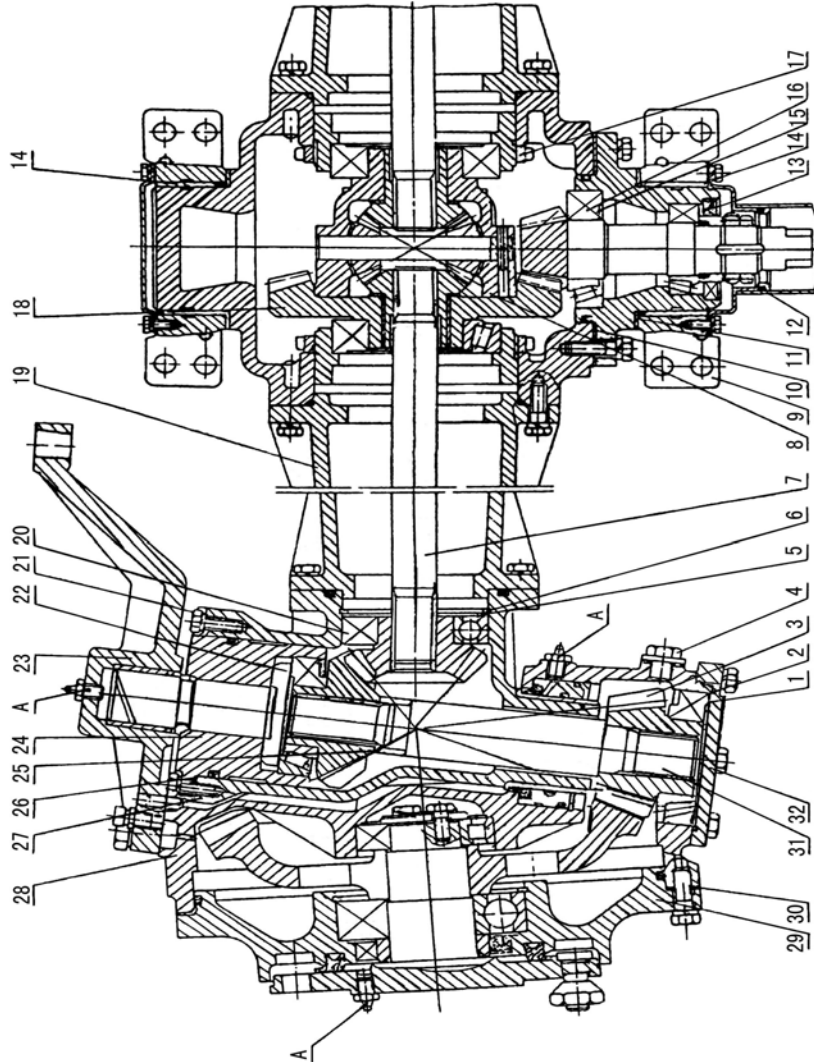

Fig.6-16 Fore central transmissioion and terminal transmission
When 4-wheel tractor goes along highway, power of front driving system shall be cut off to have the front wheels driven for reducing tires wearing. If the tractor is used for transportation for a long term instead of fields work, half shaft (7) shall be removed (see Fig. 6-16) to reduce resistance from front driving system for convenient transport. When the tractor goes along a sticky, wet and sandy path, or works in half- dry water fields, its back wheels skid easily, the front driving system shall be given power to raise its traction force.
(2) Structure and adjustment of front driving system.
The front driving power turns the front wheels through the following mechanisms, that is, the power goes through the transfer case under the bridge piece housing to the rolling ball coupling joint assembly (Fig. 6-17) to transmit to the central transmission system (Fig. 6-16) to divide into two parts and passes side half shafts to front final transmission.
After put differential mechanism into front axle assembly (Fig. 6-16), put its two shaft necks into internal ring of bearing (6) and adjustment nut (17) respectively, inspect meshing of driven wheel (18) and driving wheel (16), and adjust it if necessary then twist bolt(4) and single ear washer (3) in driven wheel (18) and differential mechanism cover (2), and lock hexagon head of bolt (5) by bending single-ear washer(3).
See Fig. 6-16, you shall adjust driving gear after front driving axle has no oil, and turn for 1 to 2 m clockwise and anti - clockwise, gear clearance shall be within 0.15 to 0.25mm, ideal contact mark refers to Fig. 6-7 and Fig. 6-8.